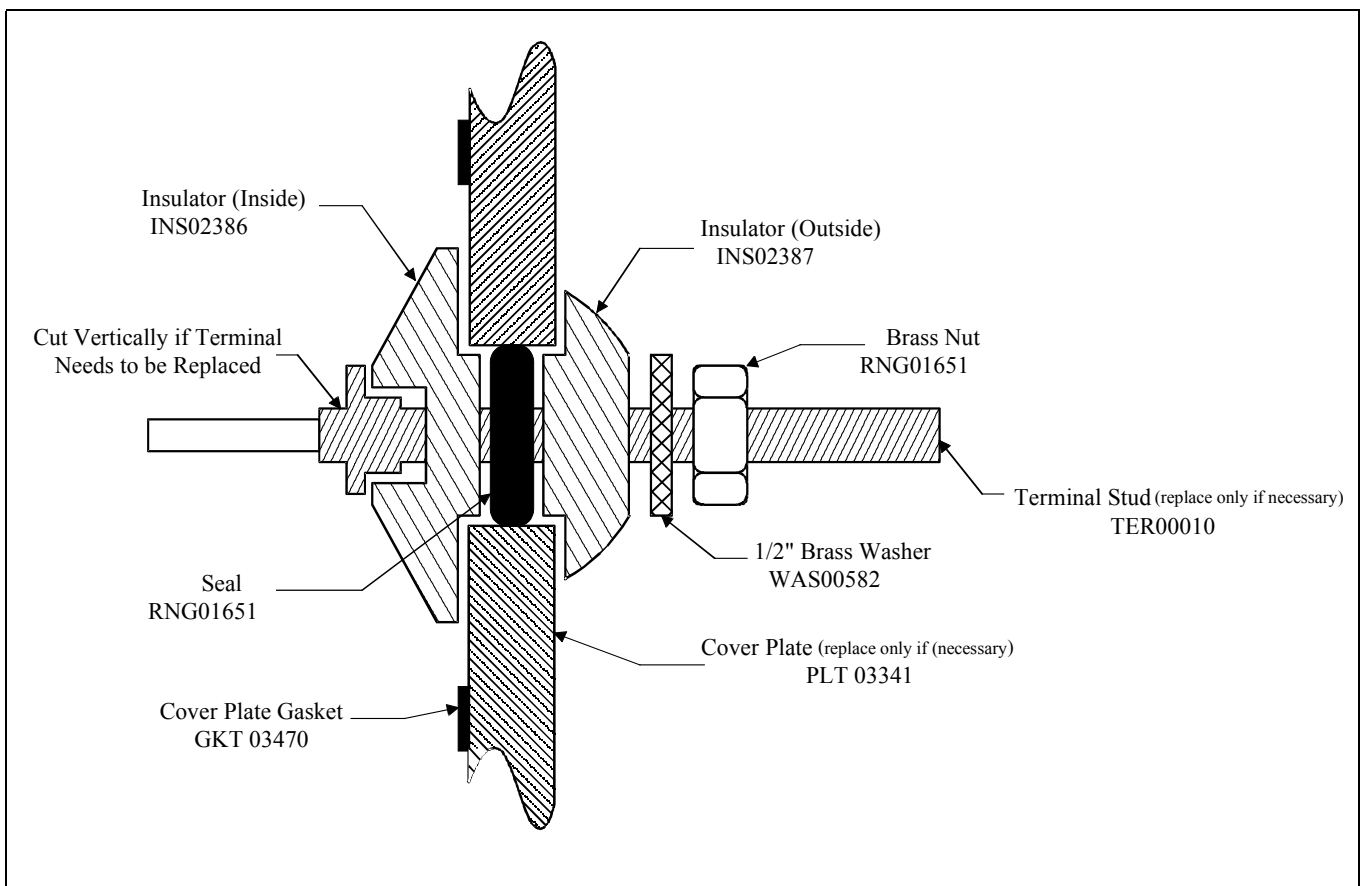

Figure 1: Terminal Cross Section
8. Use a hacksaw or die grinder and cut where specified in Figure 1.